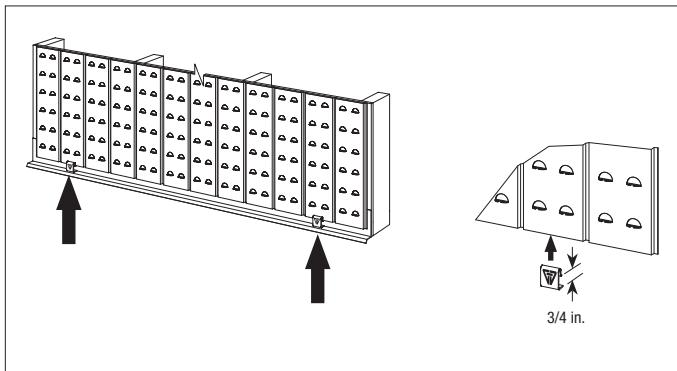

FIGURE 4
- For *Elite* applications, slide Thin Tech spacers with "GG" logo upright and facing forward, fully onto the bottom edge of first (lowest) row panels, and position panels with the spacer resting on the horizontal leg of the starter angle and vertical edges aligned over studs, see Figure 4. (If Thin Tech spacers are not used, position panels so that their bottom edges are 3/4 in. above the horizontal leg of the starter angle and their vertical edges align over studs.)